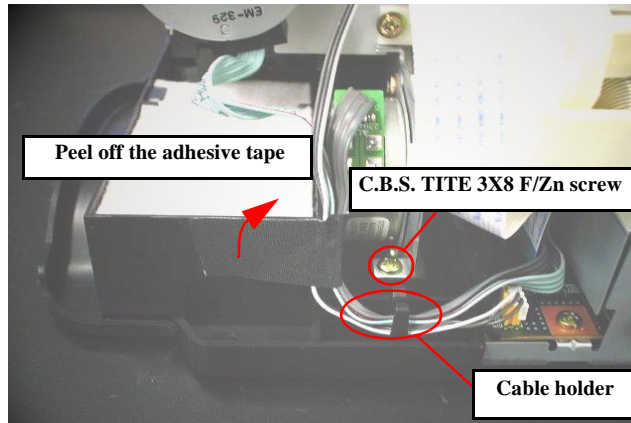

Figure 4-18. Removing one screws & cables at the back side of the printer
- After assembling the Waste drain ink pad unit, be sure to set the following three cables in the cable hook in the Waste drain ink pad unit. Refer to the Figure 4-18.